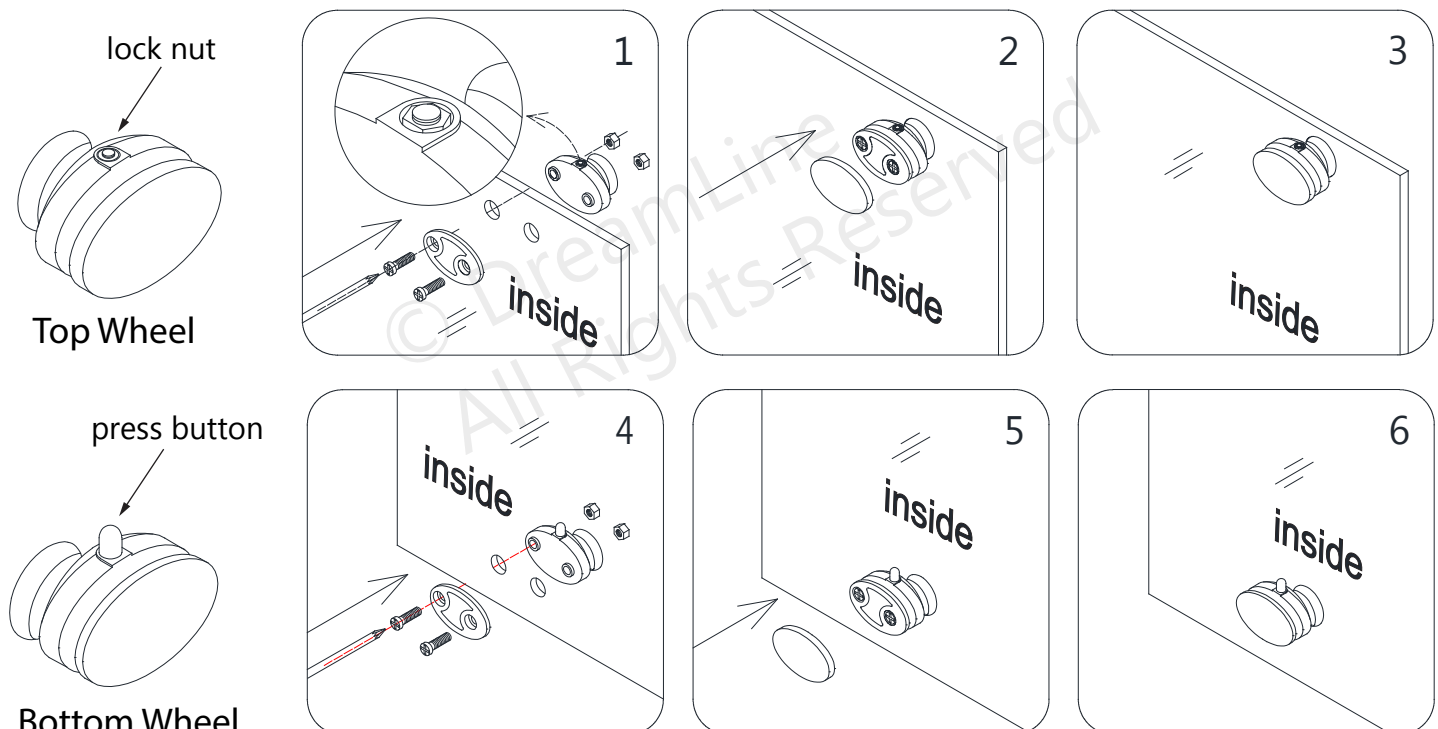

Fig 11
11. Fasten the **Top and Bottom Wheel Assemblies (#17)** to the **Door Glass (#04)** with the wheels facing the outside of the shower. The top wheels can adjust the door level with the adjustment bolt and lock nut. The bottom wheel has a press button to fix the wheel into the bottom **Guide Rail (#03)**. **(Fig 11)**
NOTE: The **lock nut** of the **Top Wheel Assembly (#17)** and the **press button** of the **Bottom Wheel Assembly (#17)** should be **pointing up**. **(Fig 11)**